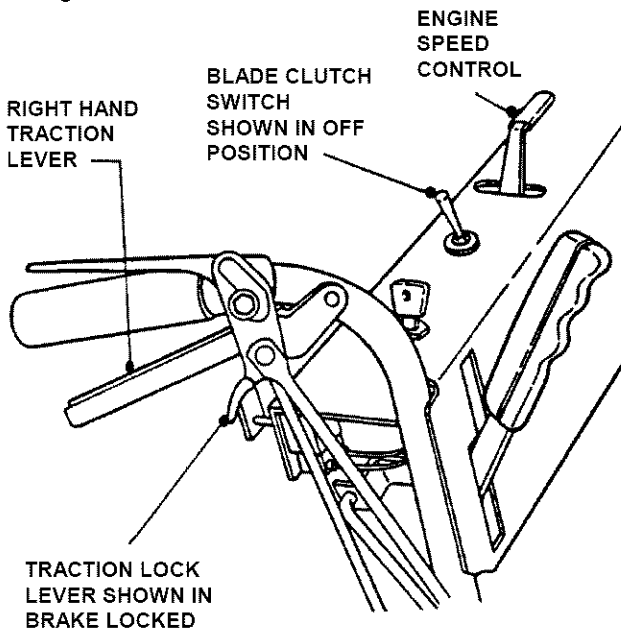

FIGURE 3.1
1. Firmly squeeze both Traction Levers towards the handle to **STOP** forward or reverse motion. Using your index finger, pull Traction Lock Lever until it locks in Brake Locked position. See Figure 3.1.
2. Pull Blade Clutch Switch backward to the **OFF** position. See Figure 3.1.
3. Move Engine Speed Control Lever to **SLOW** (turtle) position. See Figure 3.1.
STOP ENGINE by turning Key Switch to **OFF** position. See Figure 3.1.
1. Pull both Traction Levers towards the handle to stop forward or reverse motion while pulling the Traction Lock Lever rearward until it locks the Traction Lever in Brake Locked position. See Figure 3.1.
2. Pull the Blade Clutch Switch backward to the **OFF** position. See Figure 3.1.
4. Move Engine Speed Control Lever to **SLOW** (turtle) position. See Figure 3.1.